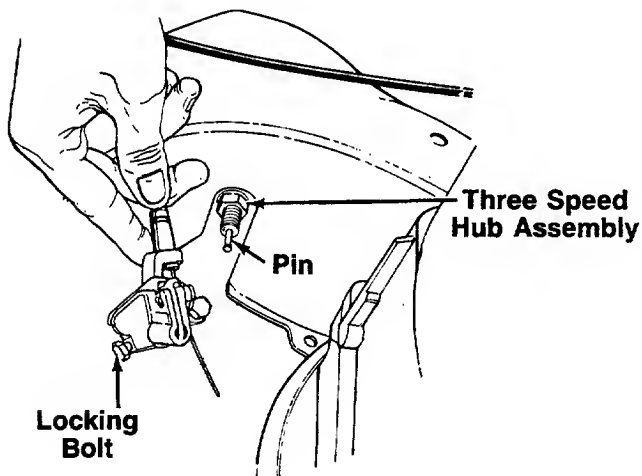

FIGURE 8.
2. Insert pin into hub assembly as shown in figure 8.
3. Loosen the locking bolt on the mechanism shown in figure 8 using a 9 mm wrench or socket.